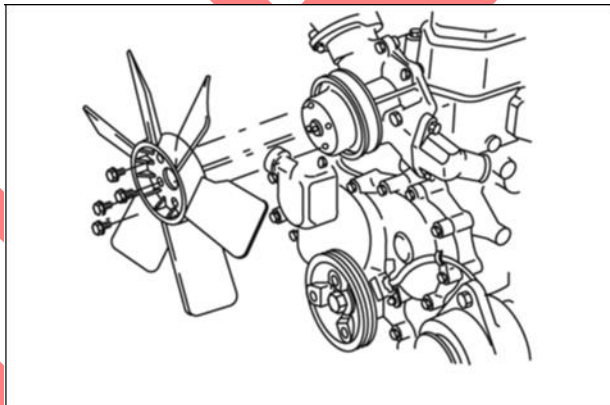

Figure 37
13. Install water pump pulley (Figure 37). Install fan (if equipped). Torque screws to values listed in Section 14 - Engine Specifications.